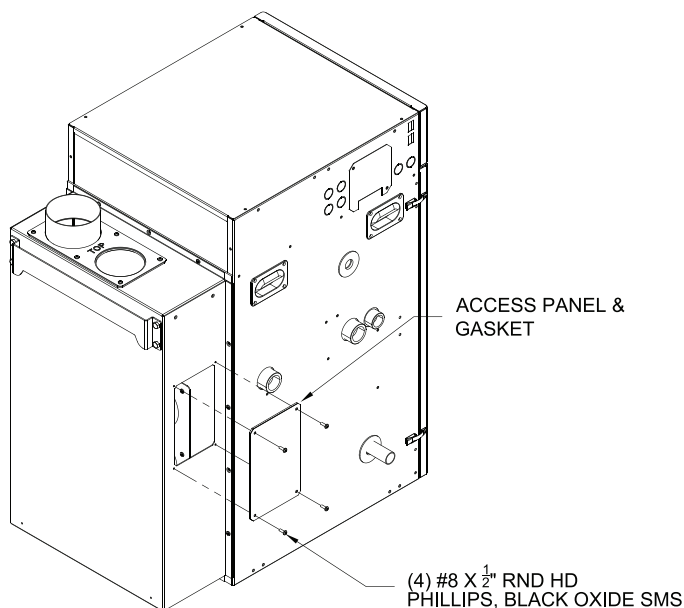

Figure 2E: Access Panel and Gasket Installation
- n. After the boiler has been piped, wired, connected to vent and combustion air system piping and combustion performance testing completed per Section IX "System Start-up", install Access Panel/Gasket assembly and secure with provided four #8 x 1/2 in. black oxide Phillips head sheet metal screws. See Figure 2E "Access Panel and Gasket Installation".